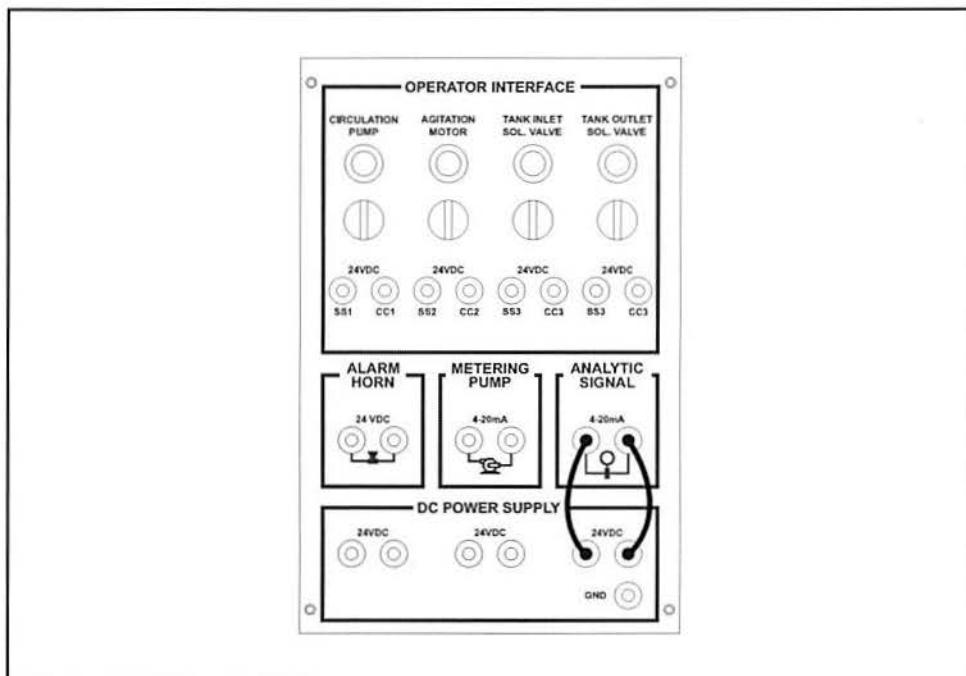

Figure 30. Connecting Transmitter to 24 VDC
A. Connect the circuit shown in figure 30.